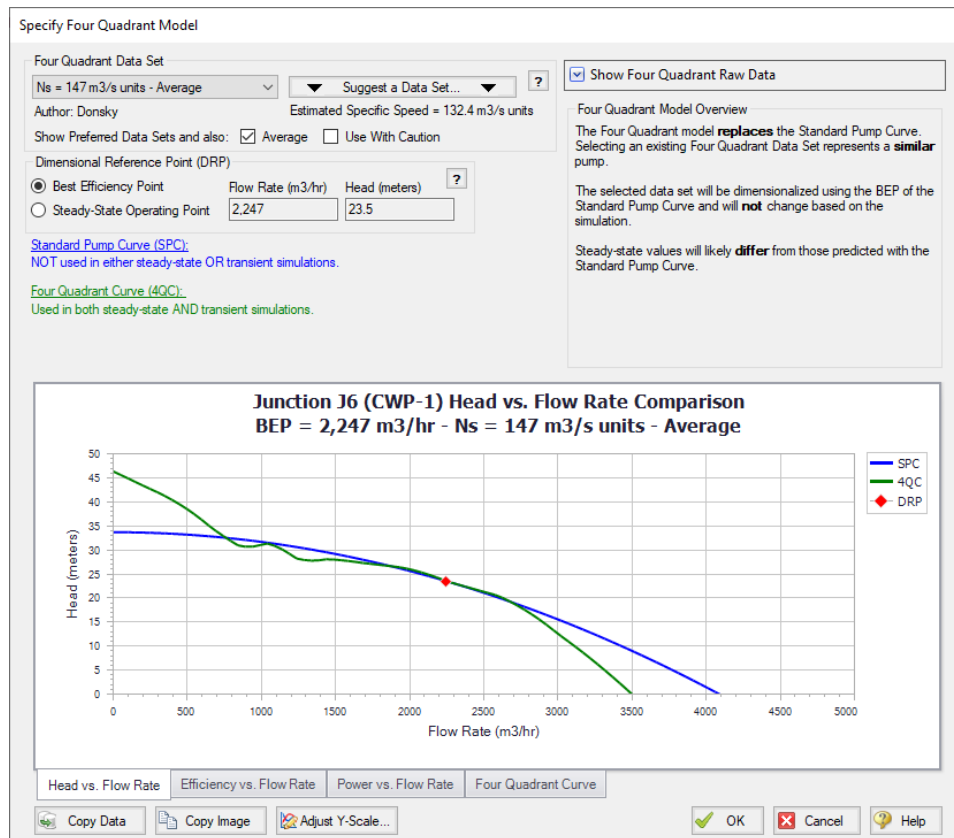

Figure 6: The Define Four Quadrant Model window can be used to select and view options for the dimensionalized four quadrant data set
- a. The $N_s = 147$ m³/s units data set will now be selected, and the dimensionalized curve will be displayed against the previously entered Standard Pump Curve. (Figure 6)